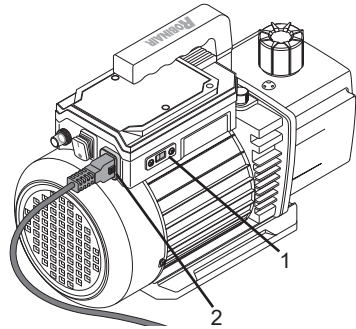

Figure 3
1. Set voltage selector switch (1) as needed to ensure the voltage setting matches the power supply rating at the outlet (see Figure 3).
3. Connect power cord (2) to vacuum pump (see Figure 3).